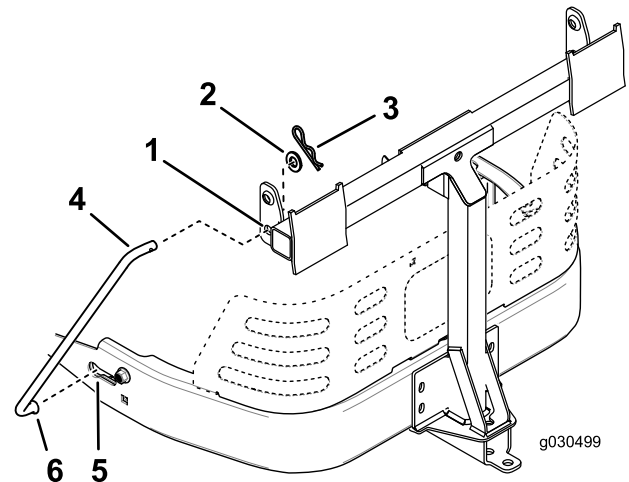

Figure 9
4. Install a bent, flared end of a rod into the keyed slot in the left side of the machine frame, and move the rod rearward to seat it in the frame (Figure 9).
5. Insert the bent ends of the rod into the attachment mount as shown in Figure 9 and secure the end of each rod with a washer and hairpin cotter.